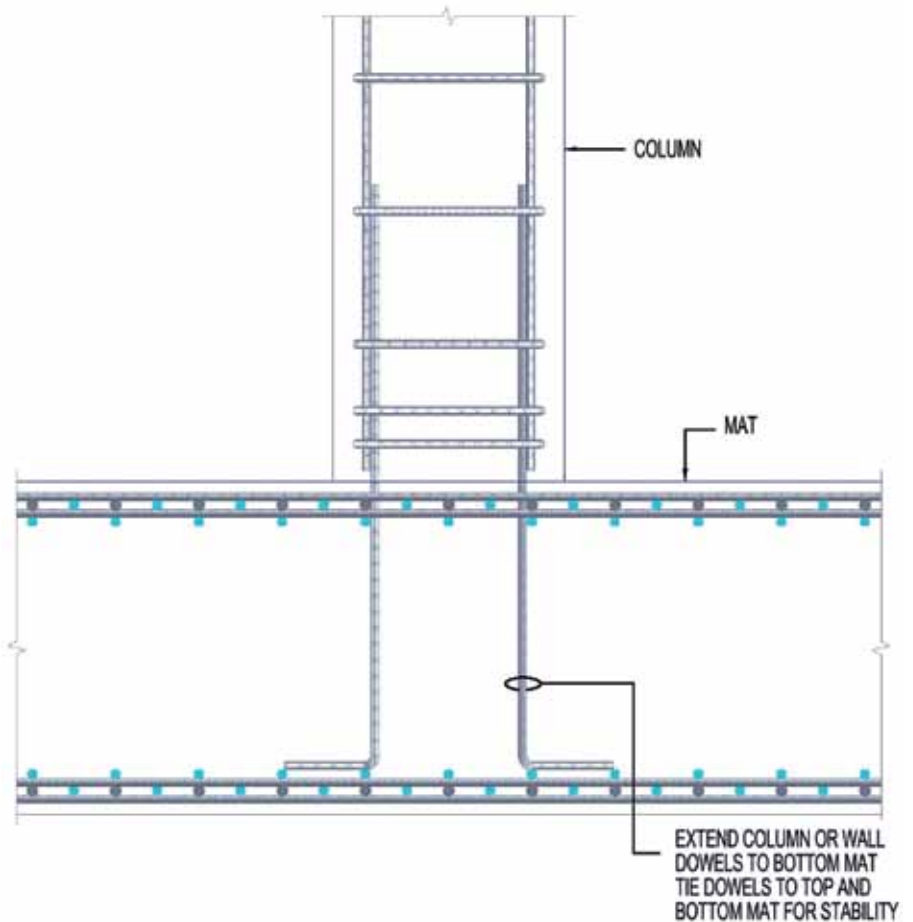

Fig. 3: Column dowels should be hooked and extended to the bottom mat of reinforcement to provide support
- It's preferable to extend column and wall dowels all the way down to the bottom mat of reinforcement. The dowels should incorporate a 90-degree hook at the bottom end, so the tail of the hook can be used for support and elevation control. This also allows the dowels to be tied to both the top and bottom mats of reinforcement for stability, as the two tie points will properly secure the dowel bars from displacing (Fig. 3).